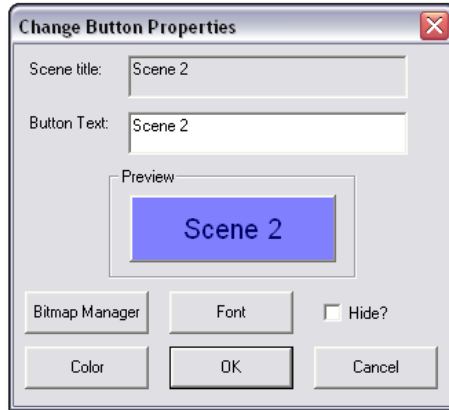

Figure 45. Change Button Properties Dialog Box
2. Right-click the **Scene Selection** button. The **Change Button Properties** dialog box opens (see figure 45 on the next page).